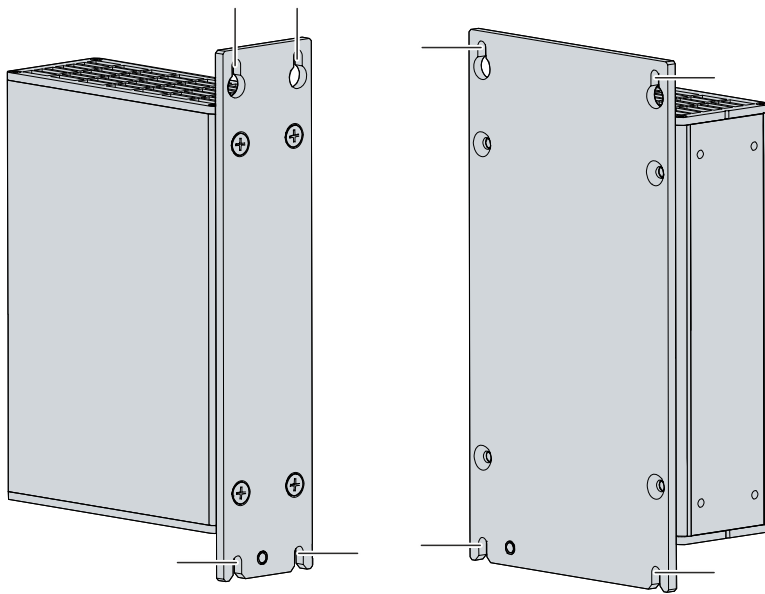

Fig. 18: Dismantling the control cabinet
You now have access to the battery (1) and storage media (2) (see fig. 18).